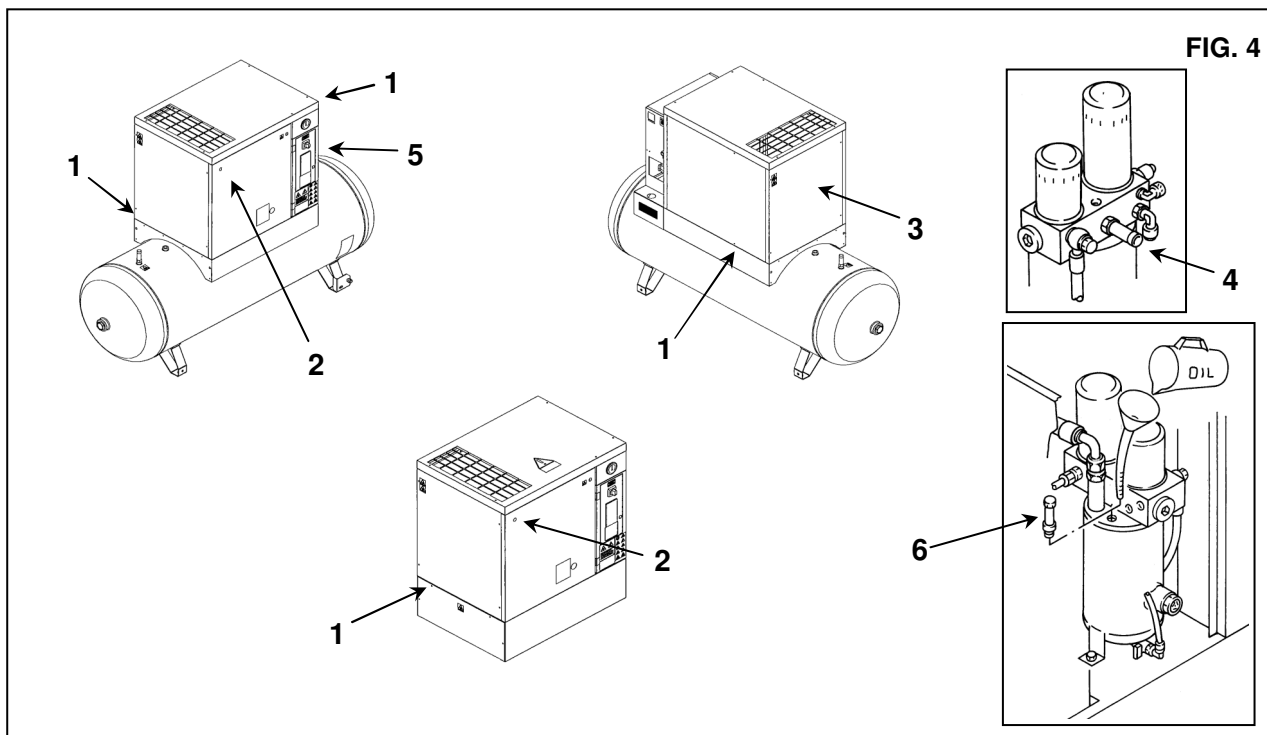

FIG. 4
7.1 DISPOZITIVE DE SIGURANȚĂ PENTRU COMPRESORUL CU ȘURUB (Fig. 4)